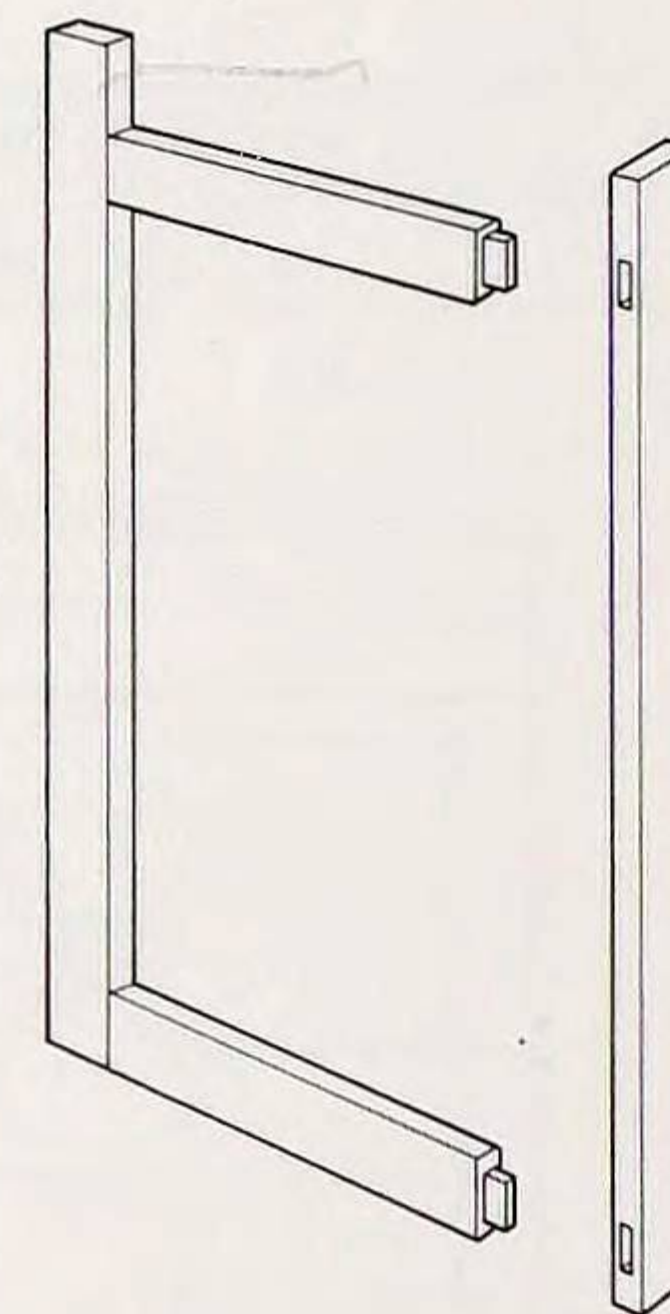

Fig. 2 Making the front frame
4. Make the front frame using joints with simple mortise and tenons (Fig. 2). Assemble it dry and check its position on the face of the cabinet.